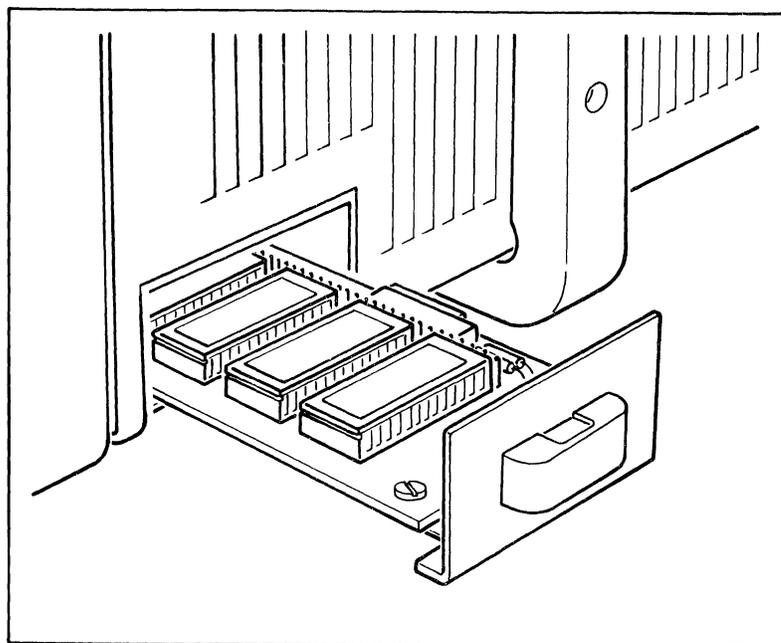

Figure 4-5. ROM Plug-in Drawer.
8. Remove the ROM plug-in (See Figure 4-5).
7. Remove the ROM plug-in (See Figure 4-5).